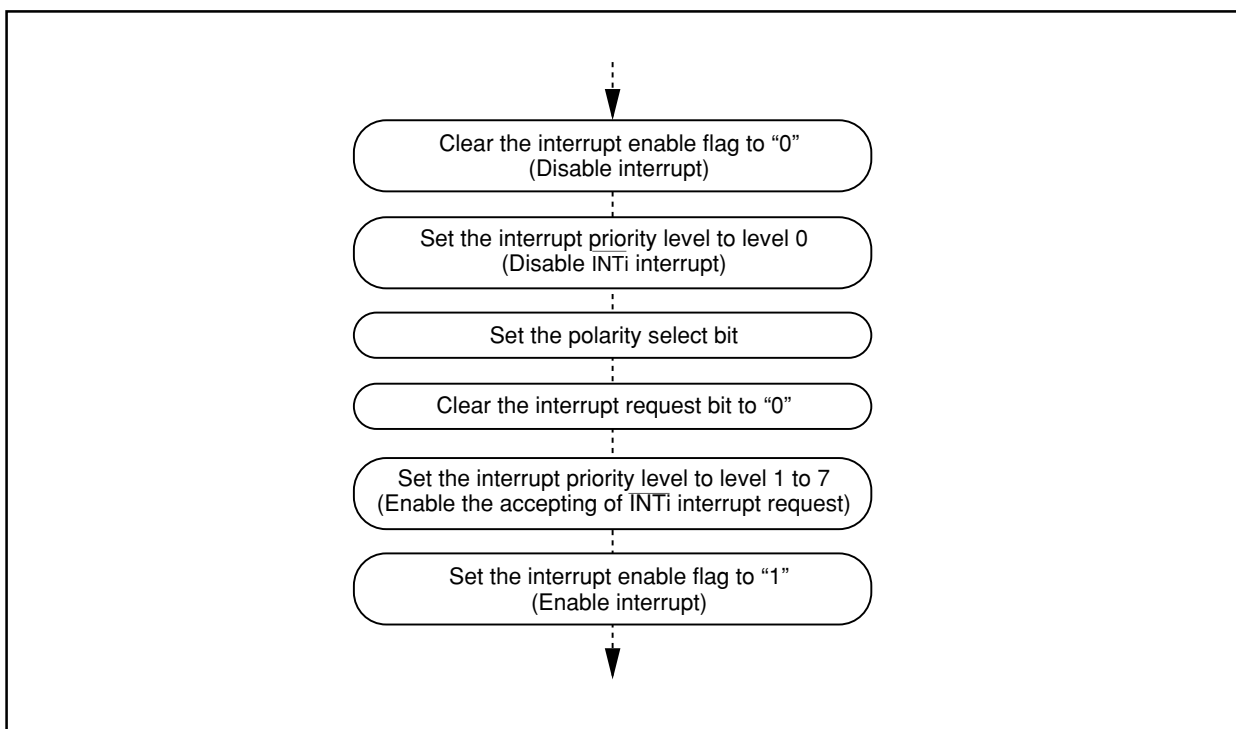

Figure 1.12.17. Switching condition of $\overline{\text{INT}}$ interrupt request
(2) Setting the stack pointer
(3) External interrupt
- When changing a polarity of pins $\overline{\text{INT0}}$ to $\overline{\text{INT3}}$, the interrupt request bit may become "1". Clear the interrupt request bit after changing the polarity. Figure 1.12.17 shows the switching condition of $\overline{\text{INT}}$ interrupt request.